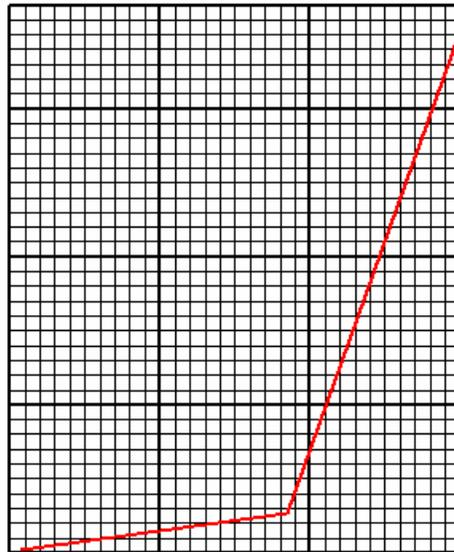

Figure 55. Object representing a specified head boundary (in red) in the Biscayne Bay aquifer model.
27. To define the specified head boundary, select **Object|Create Line** and draw a poly line on the eastern edge of the model (fig. 55). In the **Object Properties** dialog box, change **Evaluated At** to **Nodes**, change the **Name** to “Specified_Head”, and check **Set values of intersected nodes**. On the **Boundary Conditions** tab, select **Specified Head** and change the **Head** for time zero to 0. Click **OK** to close the **Object Properties** dialog box. Try coloring the grid by the two boundary conditions (**Specified_Head** and **Top_Flux_Boundary_Flux**) to make sure they are applied properly.